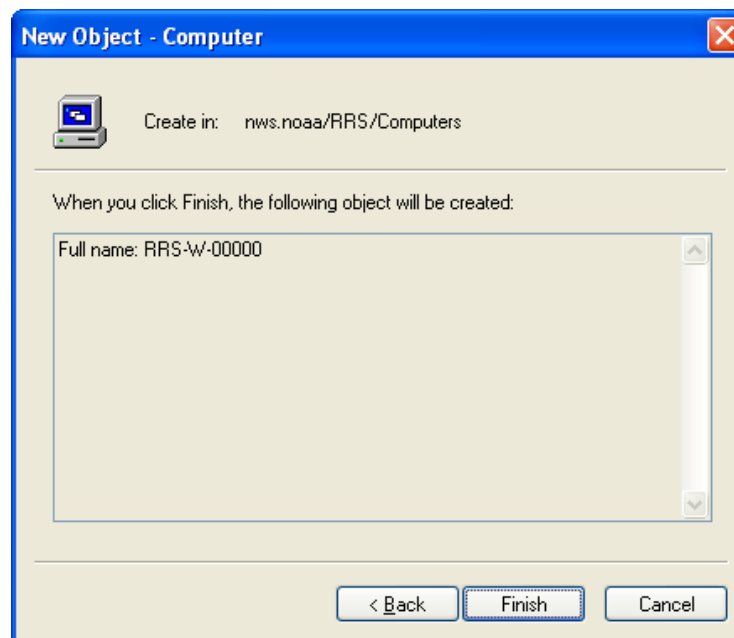

Figure B-7: New Object - Computer Window (Example Only)
9. Click **Next** to open the *New Object – Computer* window (Figure B-7).